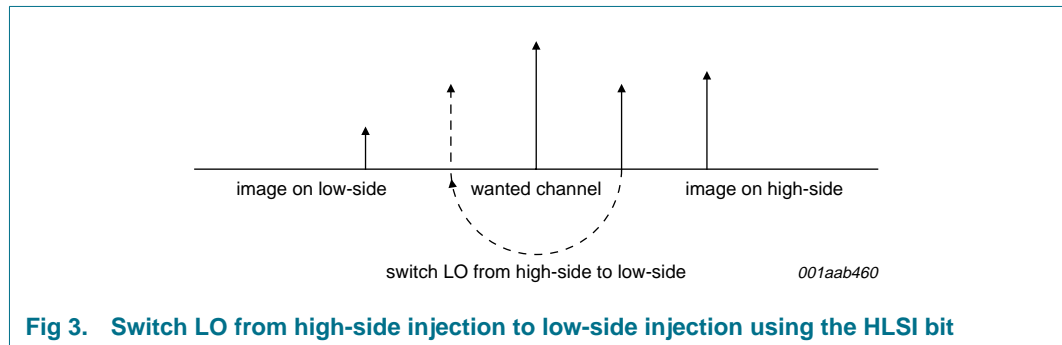

Fig 3. Switch LO from high-side injection to low-side injection using the HLSI bit
The channel quality can sometimes be improved in case of image frequency interference. This can be achieved if the Local Oscillator (LO) injection is positioned at the opposite side of the wanted channel (see Figure 3). Indication for image frequency interference can be derived from the IF frequency counter. To enable this feature the AHLSI bit must be set to logic 1.